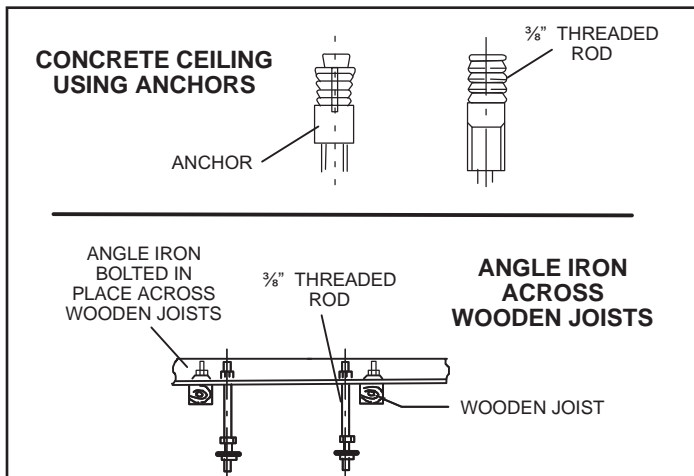

Figure 2. Suspending Methods
2. Install suspension rods in the structural ceiling or concrete slab in a suitable location. If the structural ceiling is constructed of concrete, install anchors to accept four $\frac{3}{8}$ " threaded rods to suspend the indoor unit. If the structural ceiling includes wooden joists, use angle iron or Unistrut channel fixed securely in place to accept the $\frac{3}{8}$ " threaded rods. See figure 2.
3. Slide one nut and one washer onto each threaded rod. Use electrical tape to keep the washer from falling off. Position the nuts slightly above the final resting place of the four suspension brackets. See figure 2.